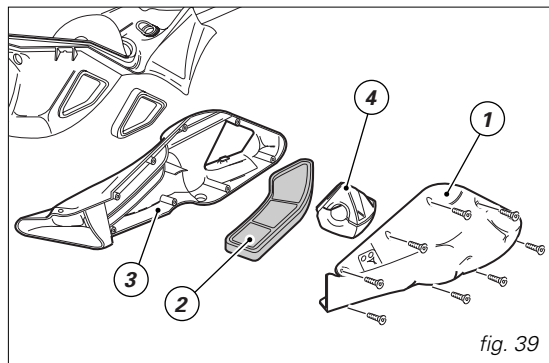

fig. 39
## **Cleaning and changing air filters** (fig. 39)
To make the procedure clearer, complete air box is shown in the exploded view (fig. 39). Remove parts indicated in the following description only.
Remove the filter (2, fig. 39) from its seat on the inner cover (3).